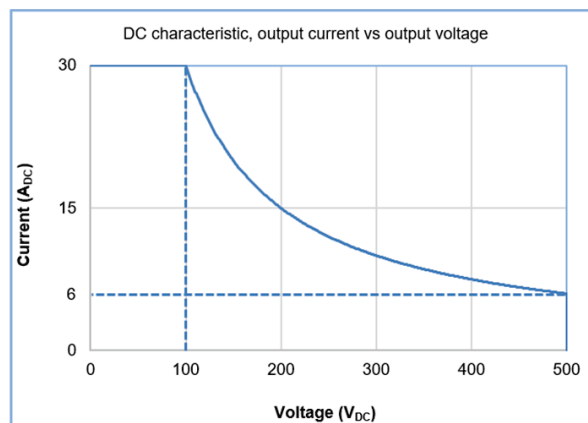
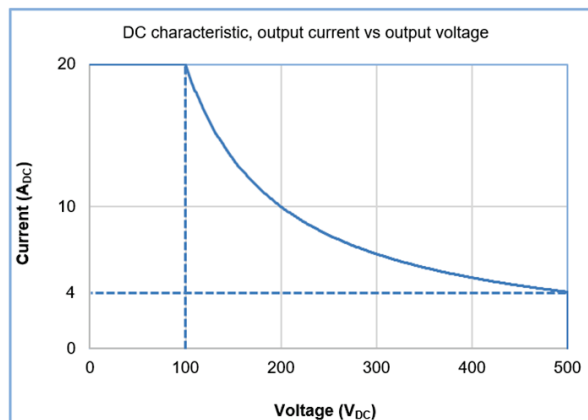

Figure 2: 3kW DC characteristic
Figure 4: 2kW DC characteristic
- \*6: Maximum DC voltage setting range is associated with the output current setting. When the output current setting is above 4A for 2kW or 6A for 3kW, the output voltage setting is limited to rated output power. Refer to Figure 2 and Figure 4.